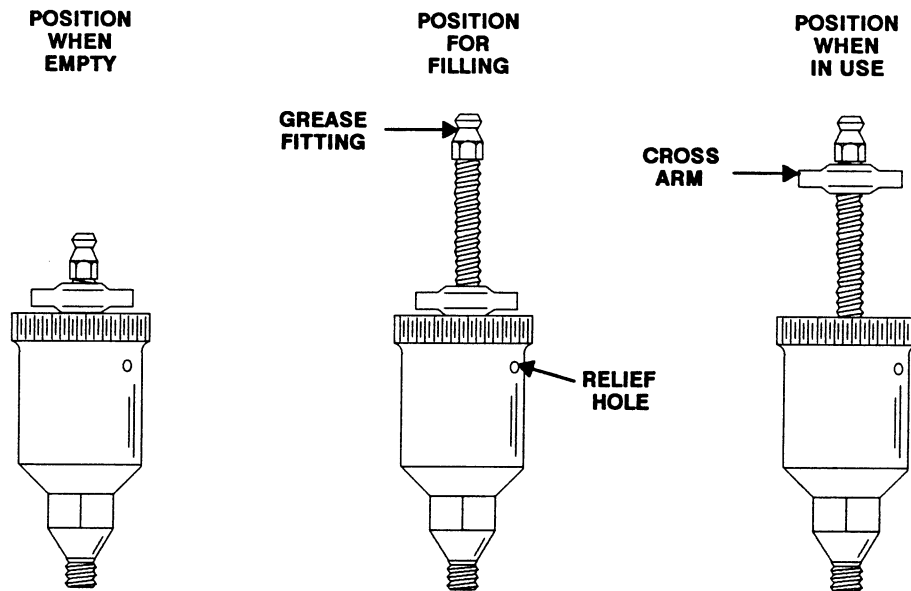

Figure 4. Automatic Lubricating Grease Cup
Before removing the impeller, turn the cross arm on the automatic grease cup (43) clockwise until it rest against the cover (see Figure 4). This will prevent the grease from escaping when the impeller is removed.
the relief hole. Turn the grease cup arm counter-clockwise until it is at the top of the stem; this will release the spring to apply grease to the seal (see Figure 4).